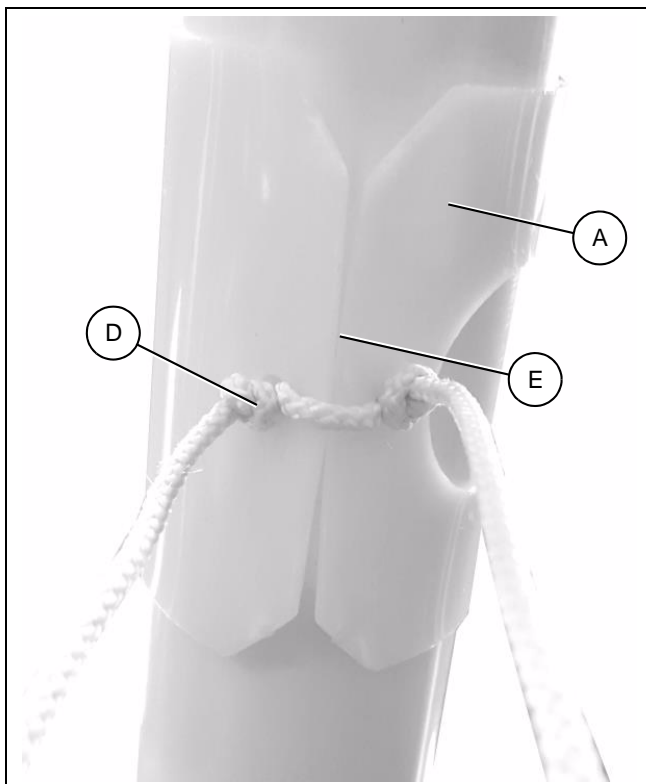

Figure 6G
5. Pull the cord tight until the first knot is firmly seated against the rotary slide (A) and the ends of the rotary slide touch each other evenly.
6. Tie a second knot (D) on the opposite side, making sure it is seated firmly against the rotary slide and there is no gap in the rotary slide (E). (See Figure 6G.)